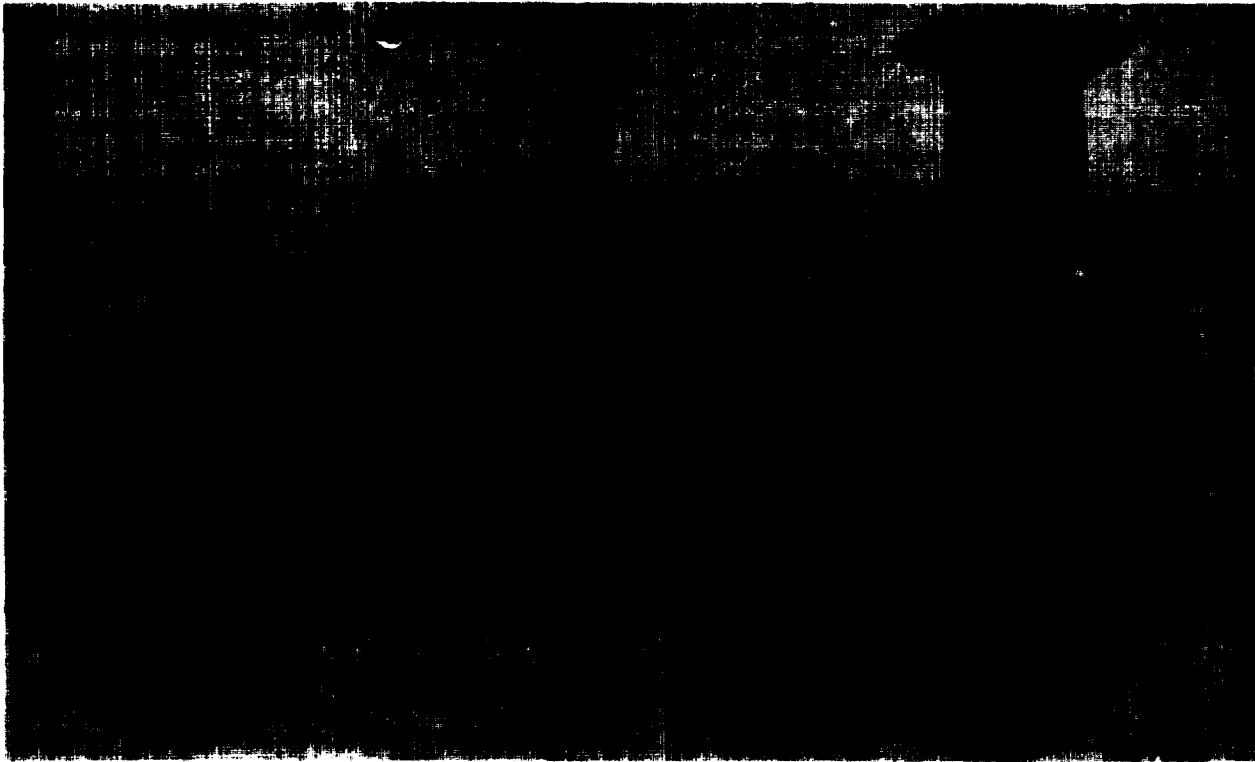

Figure 1-3. Radar chronograph mounted on utility truck M151.
a. *General Description.* Radar chronograph set, M36 (fig. 1-1) is a portable electronic instrument which measure weapon projectile velocities ranging from 70 to 1800 meters per second. The radar chronograph is designed for mounting on tripod assembly (fig. 1-2) or on utility truck M151 (fig. 1-3). Connections for power are made through a power input connector located on the rear chronograph panel. Prime power must be supplied from generator set through cable and reel assembly.